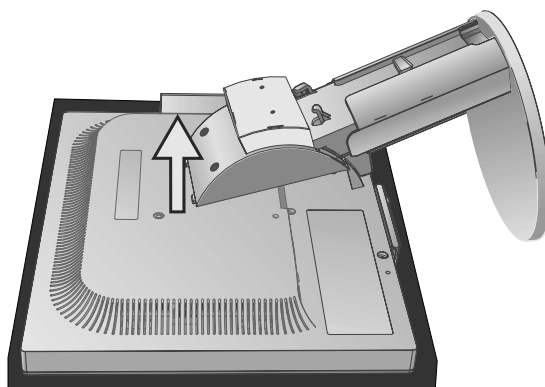

Figure S.3
5. Remove the stand (**Figure S.3**).